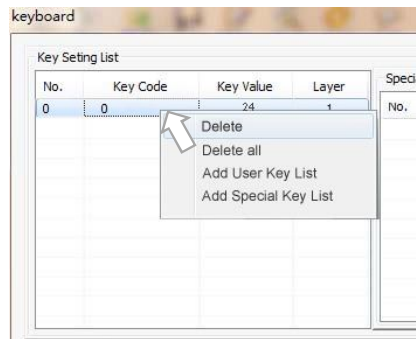

Figure 3.1.4
**Step 3.** Move your mouse cursor on 0 of Key Code field and right-click your mouse. It will show drop-down menu as *Figure 3.1.4* and select “Delete”.